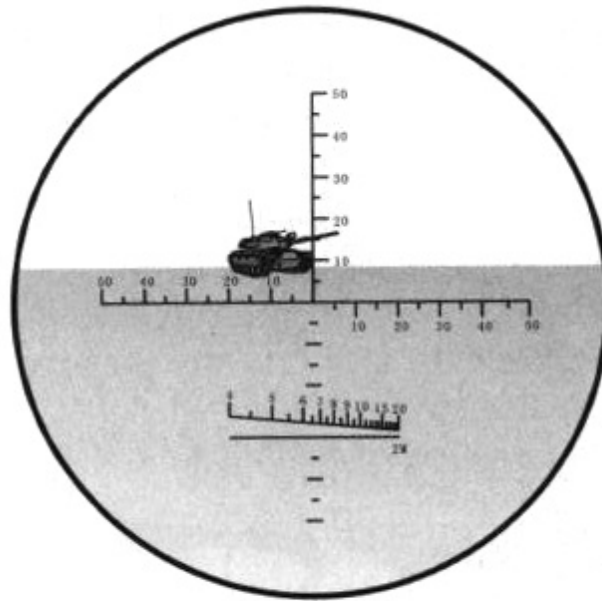

Fig. 20
A. When the azimuth of "Object" measured is lower than the reticle range ( $\pm 50$  mils), measure the azimuth by fitting "Object" with reticles. For an example shown in Fig. 20, the azimuth of "Tank" as "Object" is measured to be 20 mils (20-00 mils)